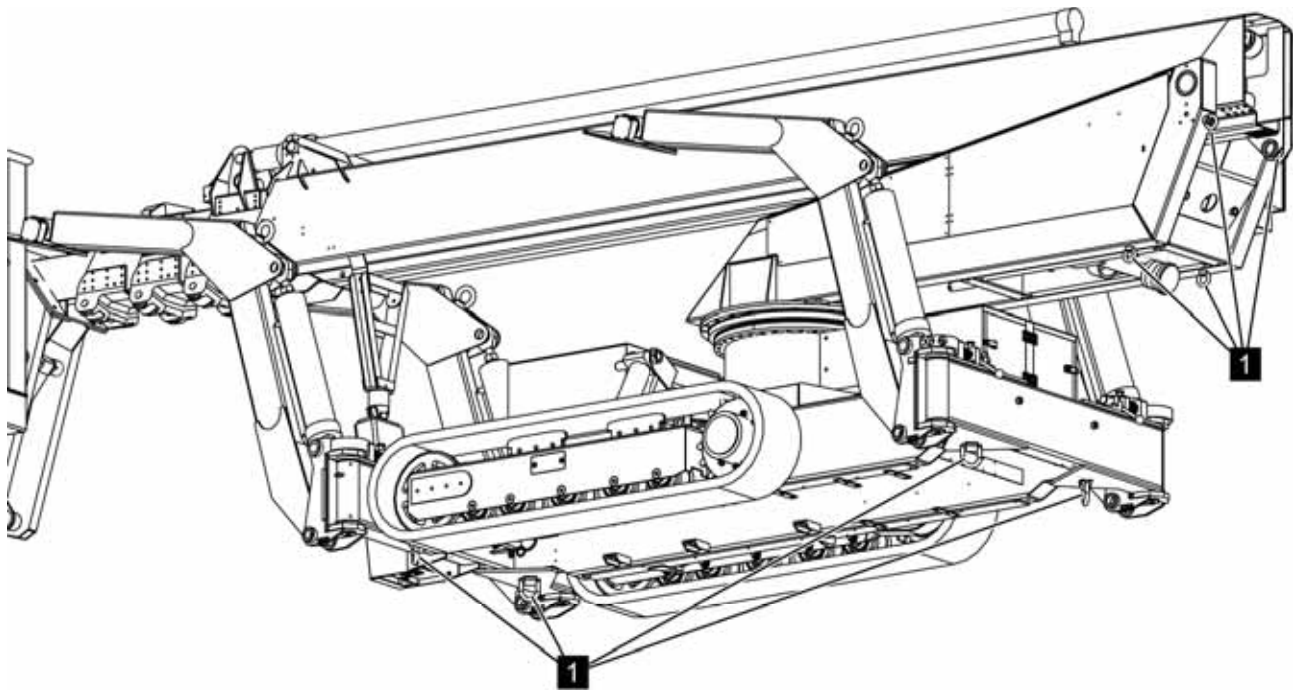

Fig. 41: Lashing eyes
3. ➤ Anchor and secure the lifting work platform to the means of transport, e.g. with safety belts in the lashing eyes (Fig. 41/1).